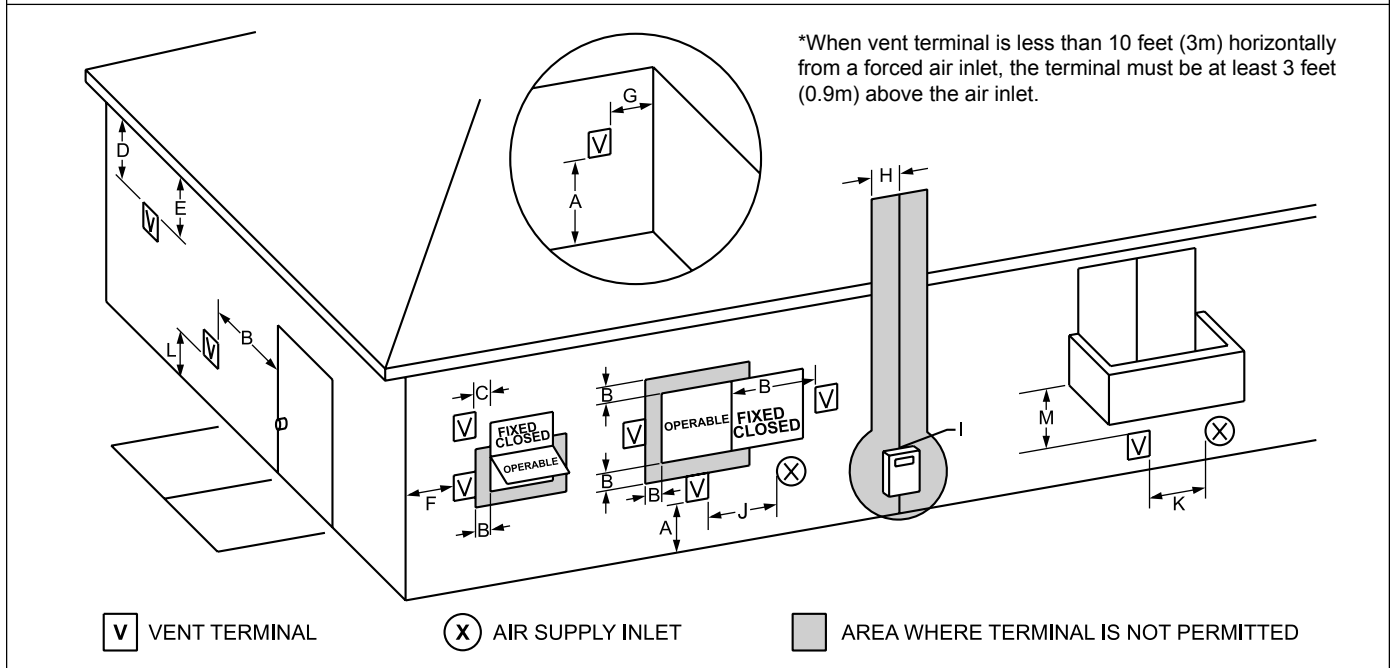

Figure 11. Combustion Air and Vent Through Side Wall.
1. Figure 11 shows the requirements for mechanical vent terminal clearances for the U.S. and Canada.